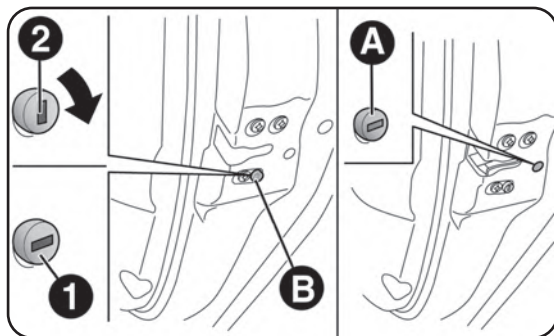
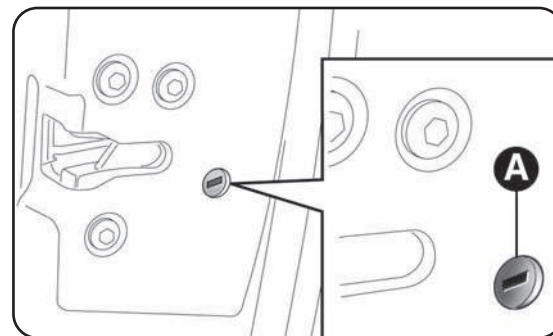

fig. 57
fig. 58
CHILD LOCK SYSTEM B - fig. 57
- engage the metal insert of the starting key in position A - fig. 57 (rear doors) or A - fig. 58 (front passenger side door);
- turn the key counter-clockwise and then remove it from position A - fig. 57 or A - fig. 58.